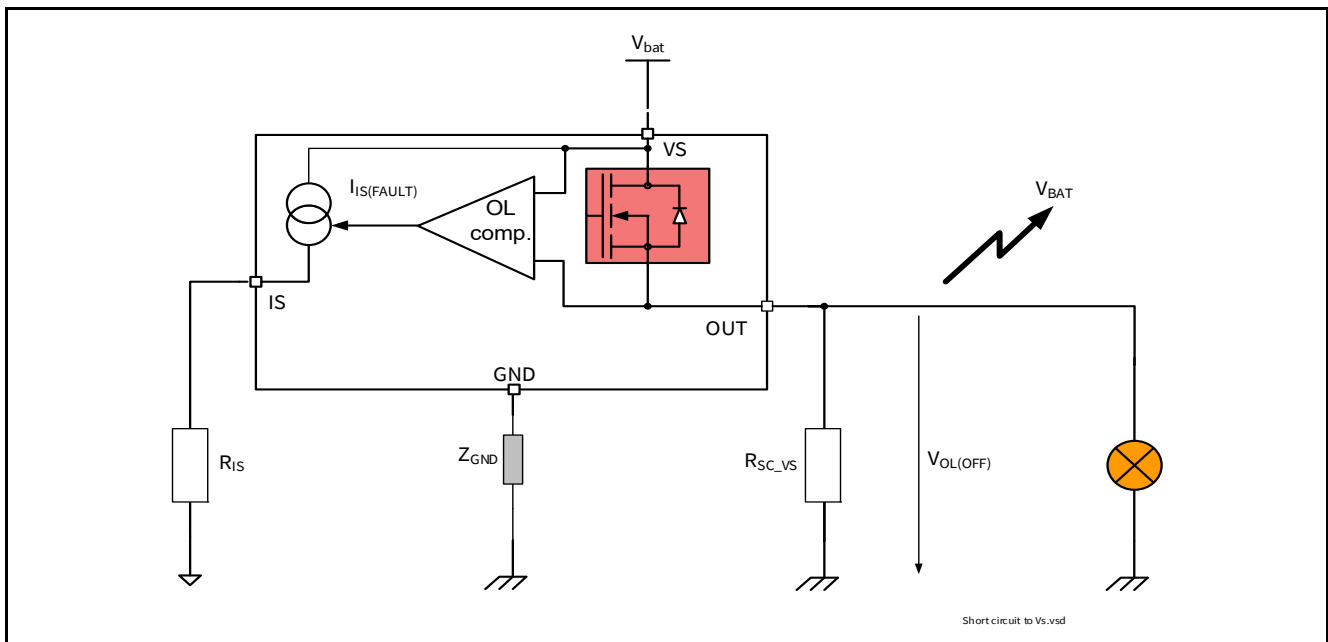

**Figure 26 SENSE Signal in Open Load Timing**
**Figure 26** shows the timing during either Open Load in ON or OFF condition when the DEN pin is HIGH. Please note that a delay  $t_{SIS(FAULT\_OL\_OFF)}$  has to be respected after the falling edge of the input, when applying an open load in OFF diagnosis request, otherwise the diagnosis can be wrong.
| Current sense settling time to $I_{IS}$ stable for open load detection in OFF state                        | $t_{SIS(FAULT\_OL\_OFF)}$     | –      | –    | 100  | $\mu\text{s}$ | $V_{IN} = 0\text{V}$$V_{DEN} = 0$ to 4.5 V$R_{IS} = 1.2\text{ k}\Omega$$C_{SENSE} < 100\text{ pF}$$V_{OUT} = V_S = 28\text{ V}$See <a href="#">Figure 26</a>                               | P_7.5.22 |
| Current sense settling time for open load detection in ON-OFF transition                                   | $t_{SIS(FAULT\_OL\_ON\_OFF)}$ | –      | 200  | –    | $\mu\text{s}$ | 1) $V_{IN} = 4.5$ to 0 V$V_{DEN} = 4.5\text{ V}$$R_{IS} = 1.2\text{ k}\Omega$$C_{SENSE} < 100\text{ pF}$$V_{OUT} = V_S = 28\text{ V}$See <a href="#">Figure 26</a>              | P_7.5.23 |